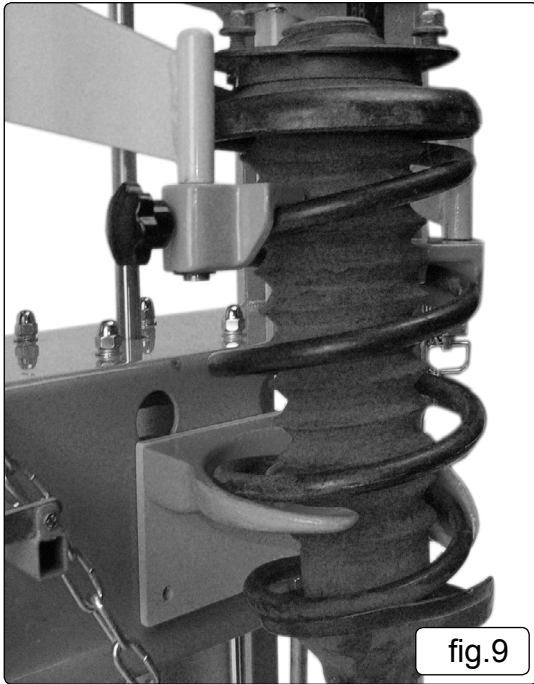

fig.9
- 5.1.3. Swing the small upper arms into position and locate the upper brackets on the uppermost available coil (fig.9). Ensure that the coil is placed inside the recesses of the brackets to ensure that the coil will not break free under compression.